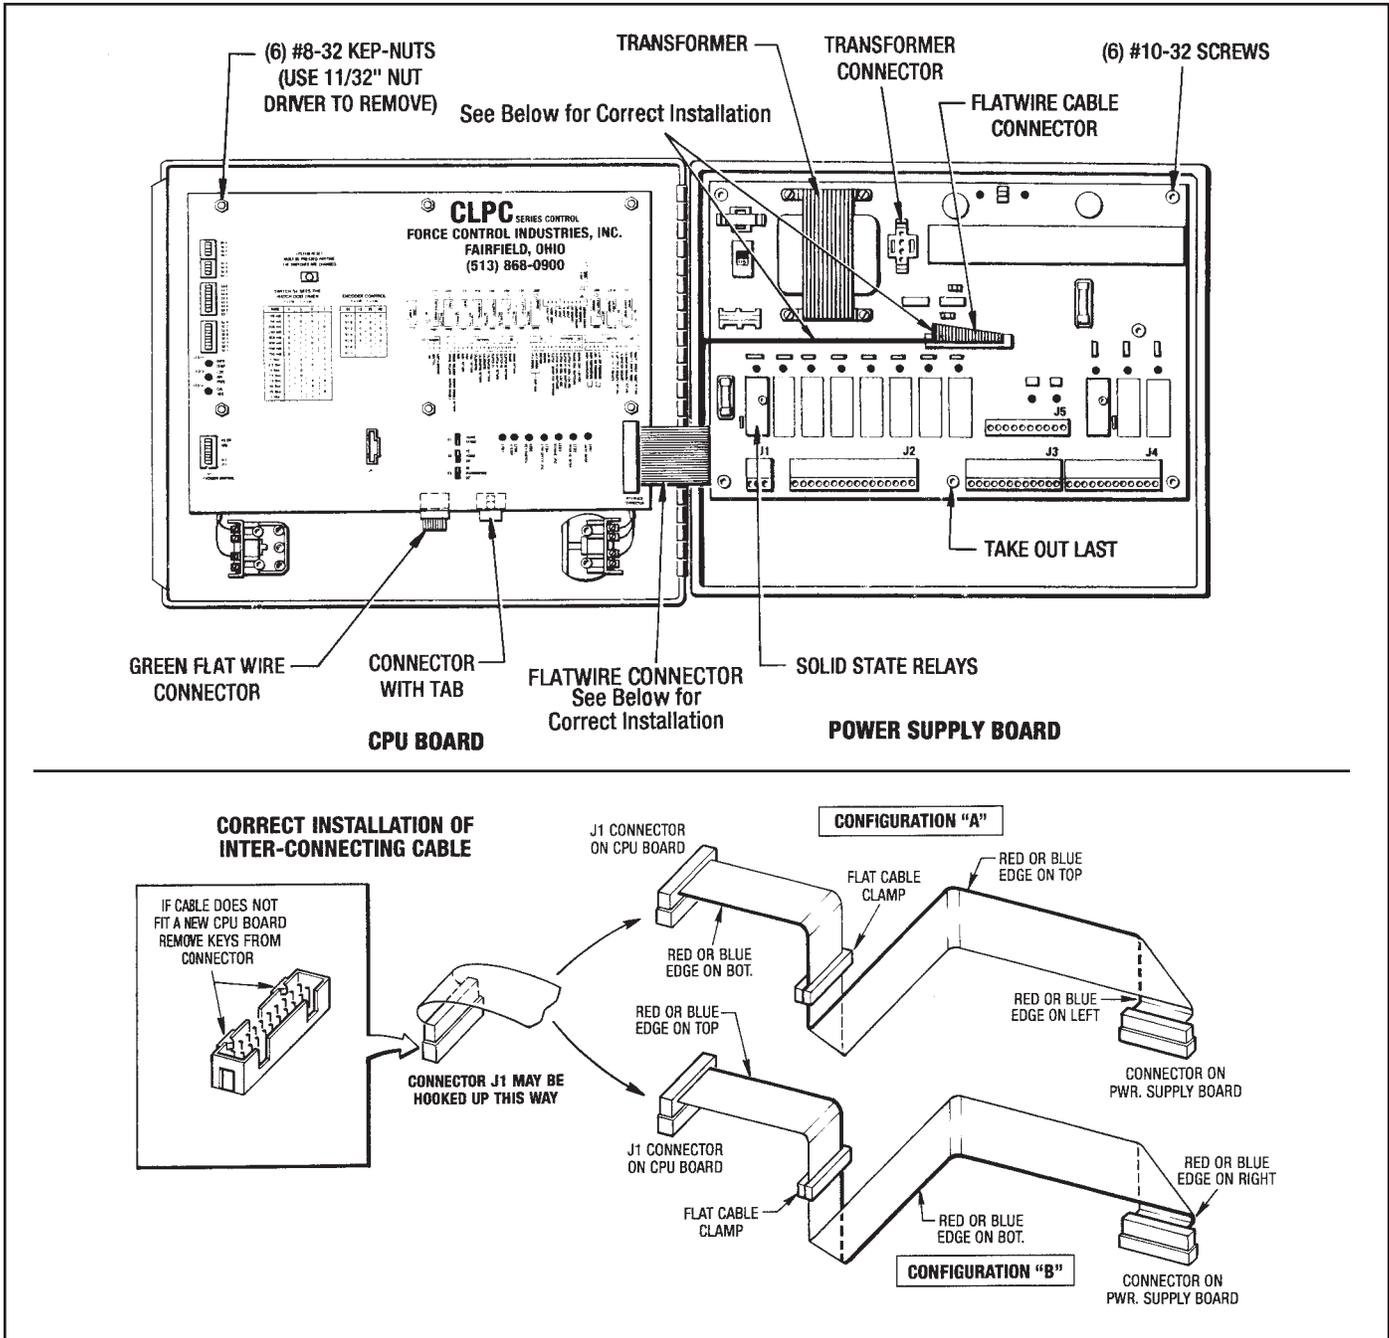

Figure 6.14 - Replacing Circuit Boards
(See Figure 6.14)
**Please pay close attention to the instructions and diagrams shown in Figure 6.14 on how to install the Inter-Connecting Flat Wire Cable correctly. If the Cable Connector for the CPU Board is not plugged in properly, the CPU Board will be damaged when power is restored.**